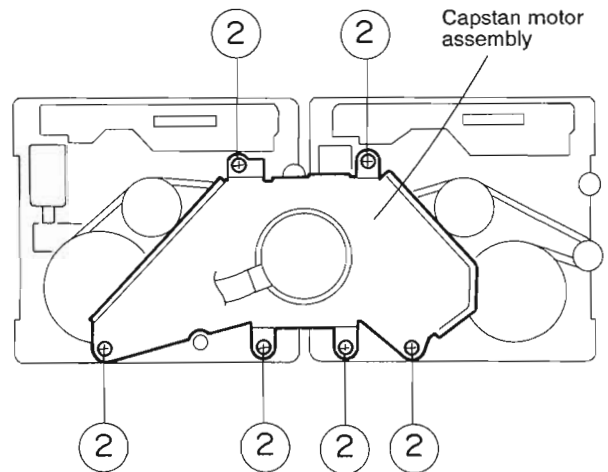

Fig.3-28
■ **Removing the Capstan Motor Assembly (See Figs. 3-28~30)**
1. Remove the six screws ② retaining the capstan motor assembly (See Fig.3-28).
2. While raising the capstan motor, remove the capstan belts A and B respectively from the motor pulley (see Figs.3-28,3-29)